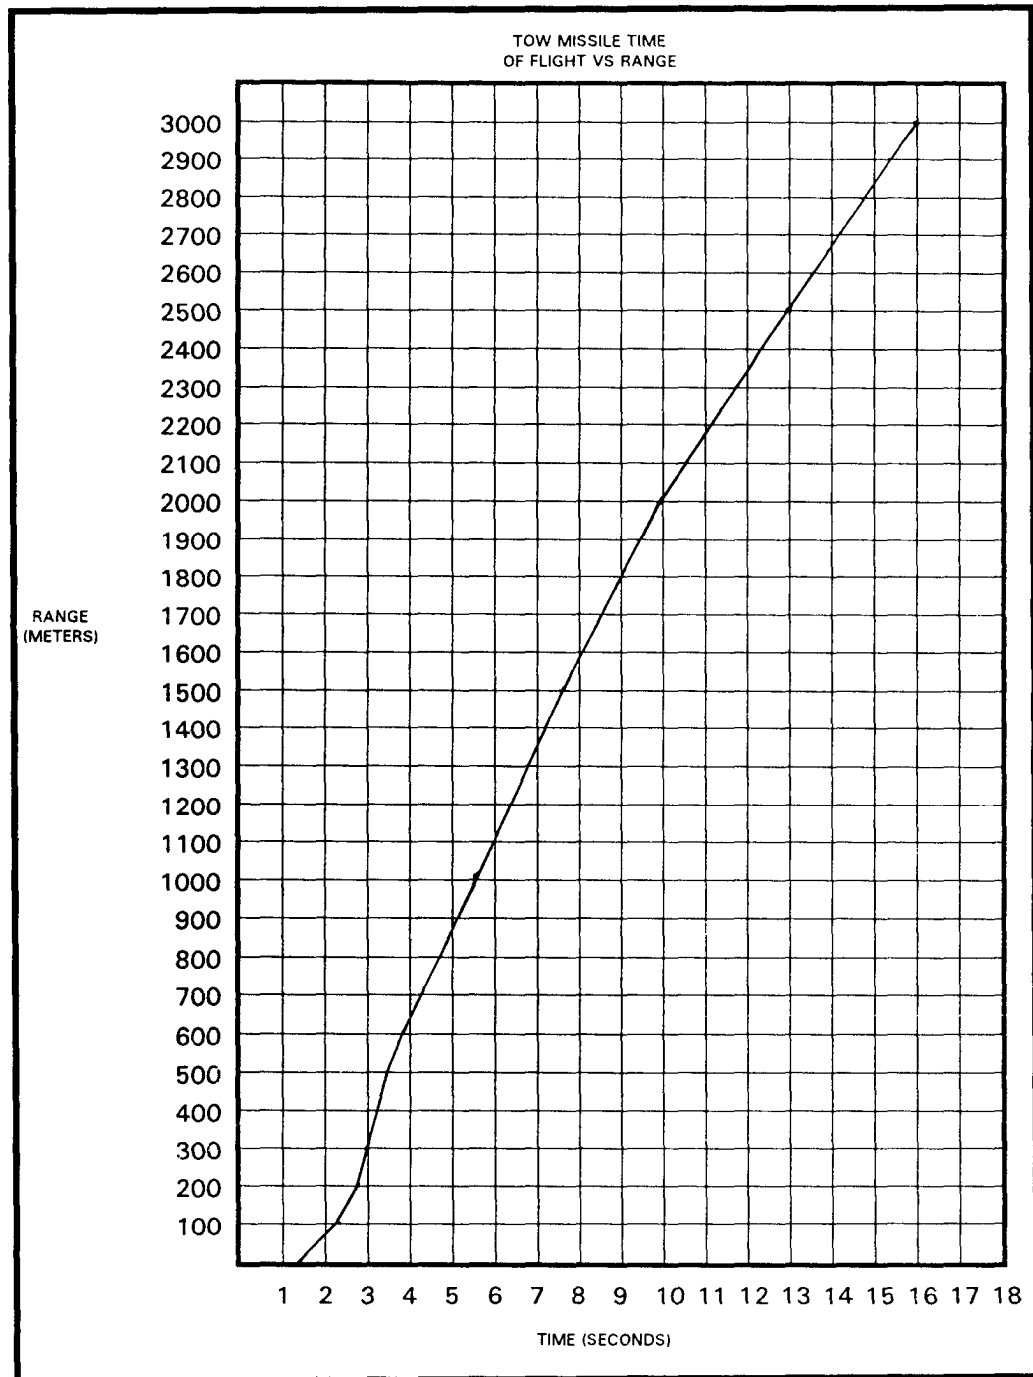

Figure G-2. TOW missile time-of-flight versus range.
19. TOW Missile Time-Of-Flight Versus Range. Figures G-2 and G-3 show the time of flight of the TOW missile to various ranges. Using these figures allows the squad leader to accurately calculate the time it takes for the missile to reach its target.